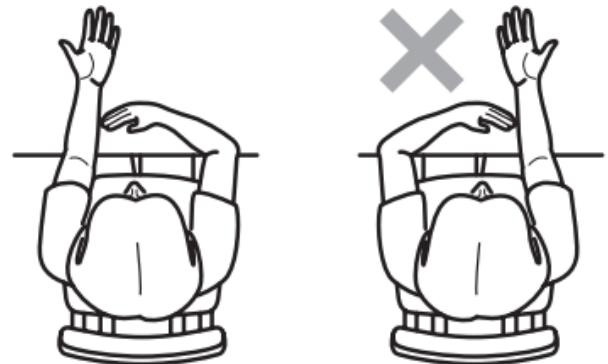

Fig. 3
8.4.3. Sit down on the chair or the armchair or on the couch. Relax, take off your watches or bracelets from the left wrist and turn back the clothes' sleeve, if necessary. (Fig. 3).